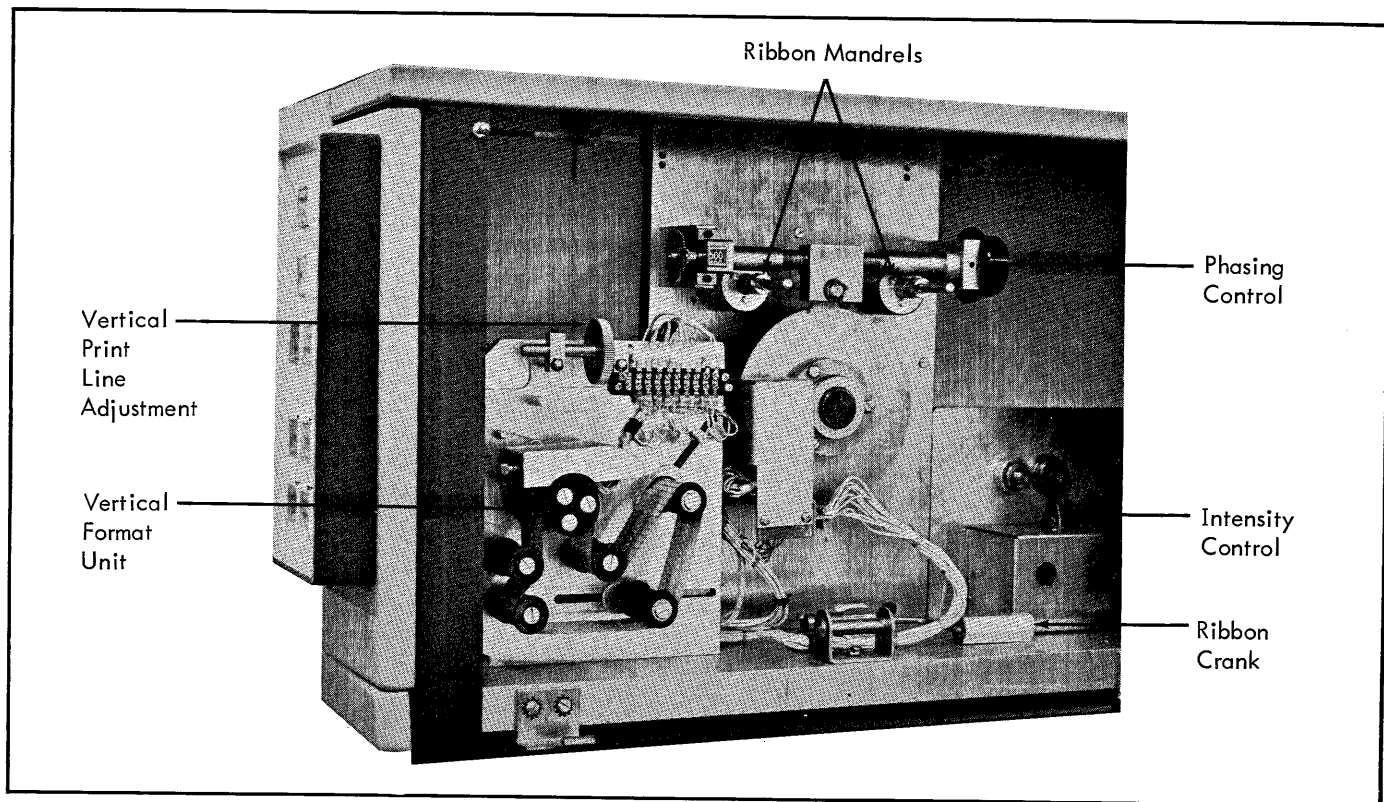

Figure 6. Right Control Bay
- a. Note mandrel that has most ribbon on it (called "supply mandrel"), engage ribbon crank with the end of this mandrel, and rotate until the paper ribbon leader on the other mandrel (called "takeup mandrel") is exposed. Remove tape that holds leader to fiber sleeve and finish taking up remaining ribbon onto supply mandrel. Figure 6 shows the right control bay, which houses the ribbon crank and the ends of the mandrels.
The following procedure is required only when changing types of paper or changing the number of copies being printed. Refer to Figure 6 for location of the control.
If characters are not aligned with lines on the paper, perform the following adjustment. Refer to Figure 6 for location of the control.
Perform the following adjustment when the print intensity of the output is unacceptable. The intensity control settings will vary with the number of forms and the age of the ribbon. Refer to Figure 6 for the location of the control.
- a. Move tape spools to allow tape to be mounted (see Figure 6).